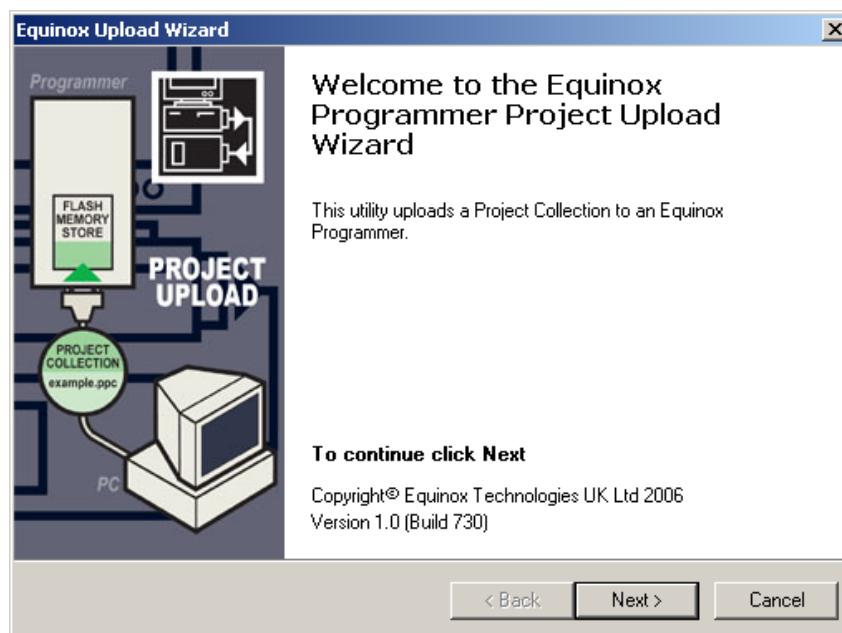

Figure 18 Programmer Upload Wizard – Welcome window
1. When the Upload Wizard has started the window depicted in Figure 18 will open.